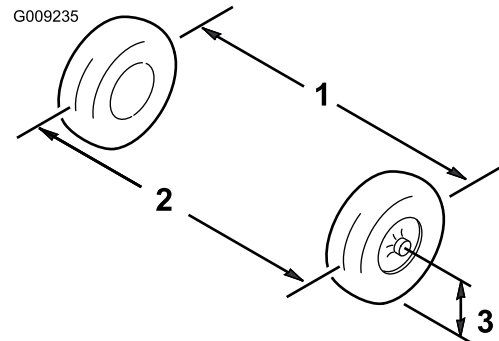

Figure 56
1. Measure the distance between both of the front tires at the axle height at both the front and rear of the front tires (Figure 56).